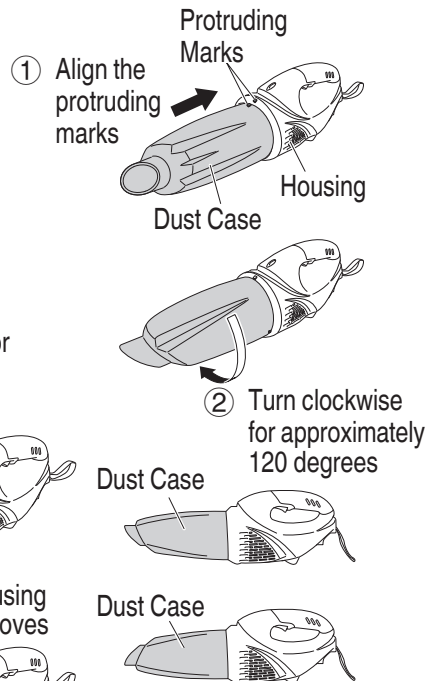

Fig. 11
- (6) Install the dust case (**Fig. 11**)